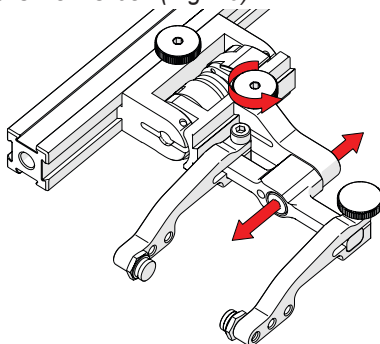

**Fig. 28** - Attach to frame bar
- 1.** Rotate the probe holder adjustment knob and attach probe holder to a frame bar (*Fig. 28*).